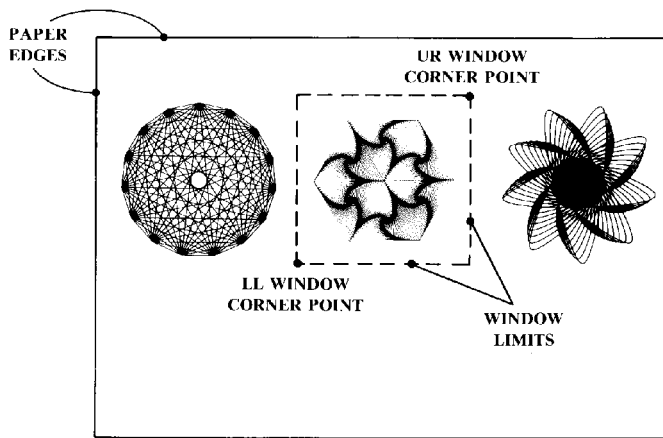
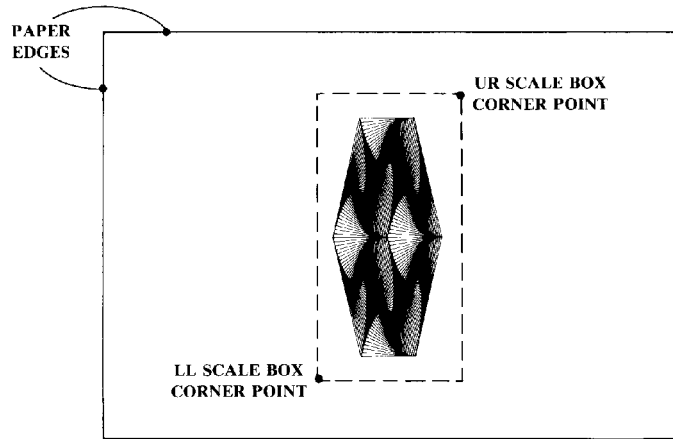
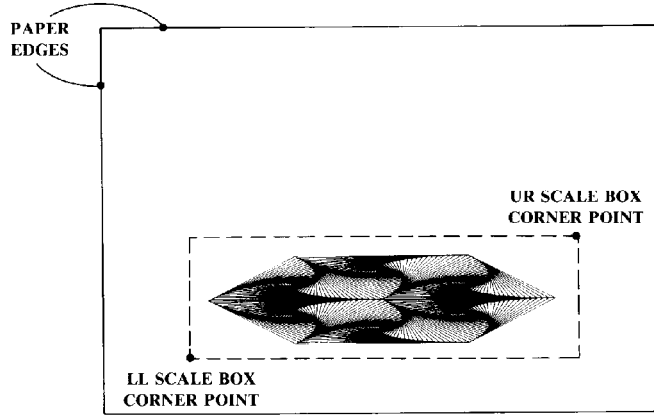
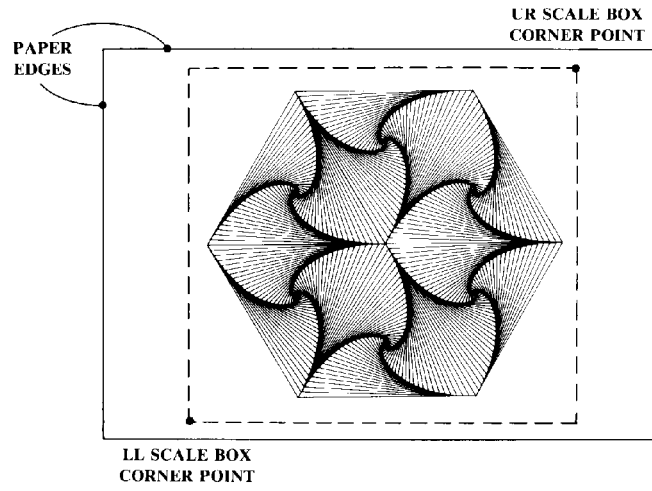

Figure 2-4
Figure 2-5a.
Figure 2-5b.
Figure 2-5c.
The subpart of a plot design that is selected to be replotted is called a *window plot*. A window plot is created by specifying an imaginary rectangle around a subpart using two points, called the *lower left (LL) and the upper right (UR) window corner points* (see Figure 2-4). The lines of the imaginary rectangle are called *window limits*. Only the plot codes within the specified window limits are processed by the plotter when the program is rerun; thus, only the subpart (window plot) appears on the chart.
For example, if a scale box rectangle is specified the same length as the Figure 2-4 window, but three times the height, the subpart plot will appear stretched in the vertical direction when the program is rerun (see Figure 2-5a). If the scale box rectangle is specified the same height as the window, but three times the length, the subpart plot will appear stretched in the horizontal direction (see Figure 2-5b). If the scale box rectangle is specified three times the height and the length of the window rectangle, the subpart plot will appear three times as large (see Figure 2-5c).